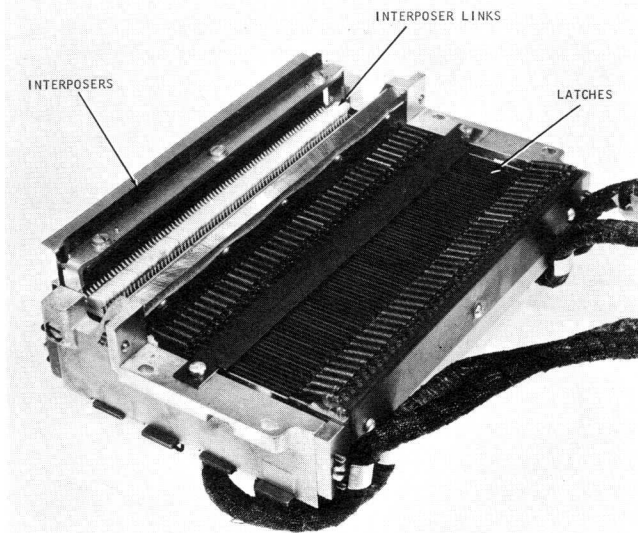

Figure 4-13. Magnet Unit
2. The magnet unit (Figure 4-13).